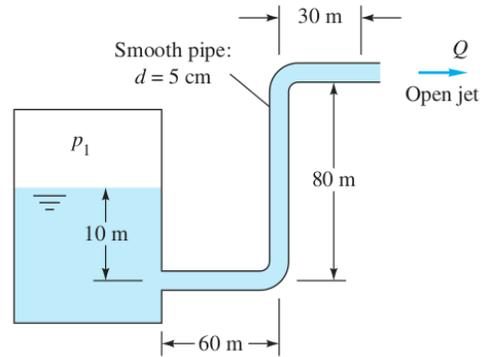

Fig. 6.5
- 6.5 The pipe flow in Fig. 6.5 is driven by pressurized air in the tank. What gage pressure p_1 is needed to provide a 20°C water flow rate $Q = 60$ m³/h?